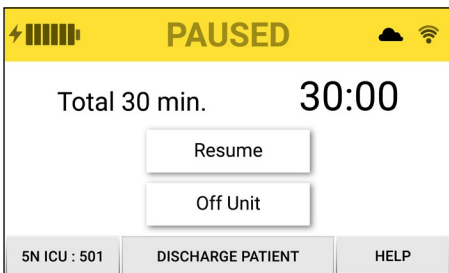

Figure 6. Paused screen
2. A Paused screen will display with a yellow status bar and remaining pause time displayed on the right side of the screen. (Fig. 6)
3. Pause time may be extended if necessary when the patient is going off-unit by pressing "Off Unit" to display additional pause times (Fig. 6)